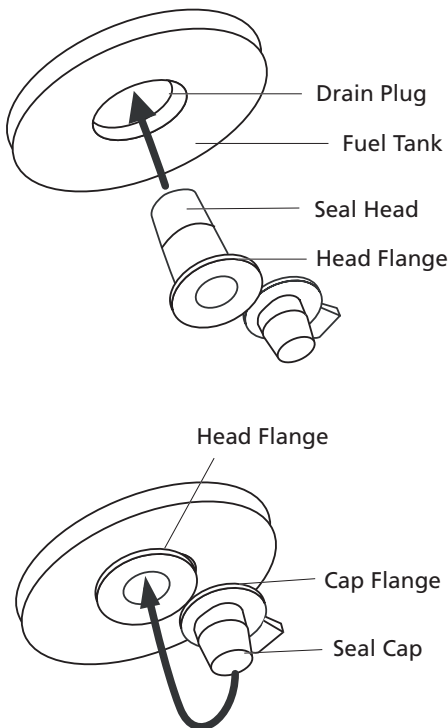

Figure 13 – Drain Plug Reinstall
- Insert plug's seal head fully into drain hole so that flange is flush to tank's bottom. See Figure 13.
- Insert seal cap fully into head hole so that cap flange is flush to head flange. See Figure 13.